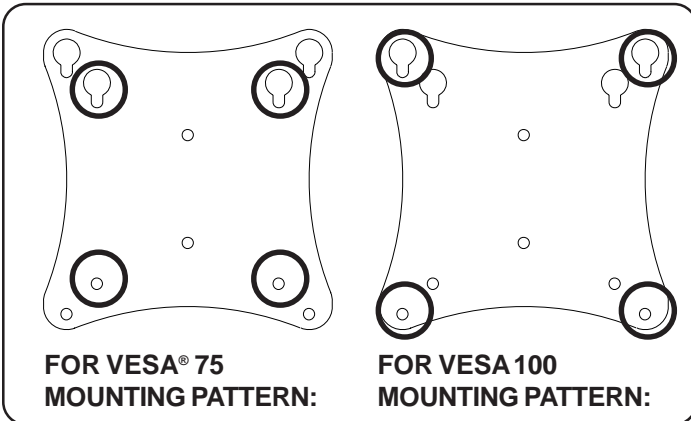

fig. 2.1
- 2** Insert two M4 x 12 mm screws (**F**) into top two holes of screen, leaving approximately 1/4" of exposed thread. Hook screws onto keyslots of adapter plate as indicated in figures 2.1 and 2.2.